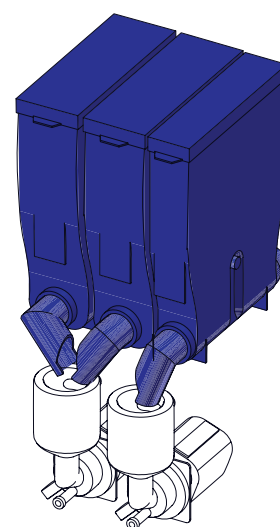

Fig.11.13
11.2.2.3 Containers for soluble ingredients (see fig. 11.13)